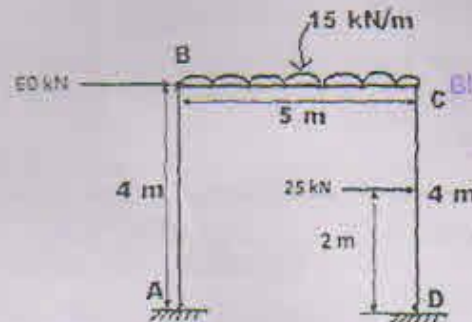

Figure 5
- (b) What do you understand by NODAL DATA, CONNECTIVITY DATA in Direct Stiffness Method? Briefly explain. (5)
6. (a) Write the LOAD VECTOR in the structure for Matrix Analysis, having 4 (Four) Nodes and 3 Elements as shown in the figure 5. (10)